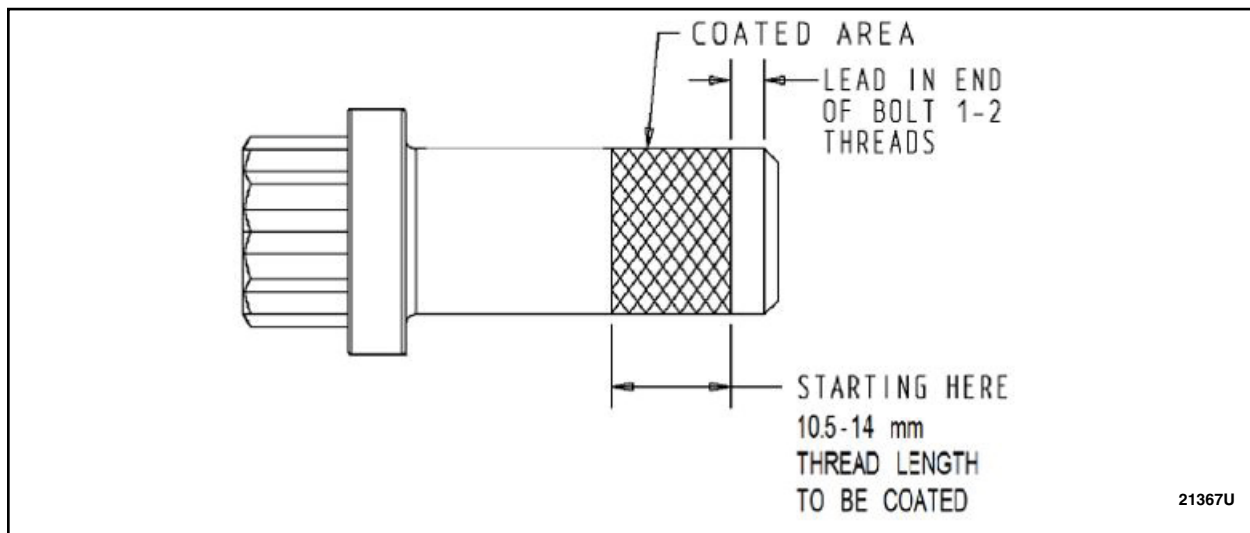

FIGURE 18
21. Inspect the original driveshaft flange to pinion flange bolts for rust in the threads and replace if rusted or damaged. Clean threads of the original driveshaft flange to pinion flange bolts with a wire brush and coat the threads with LOCTITE 243 Blue Medium Strength Threadlocker or equivalent. See Figure 18.